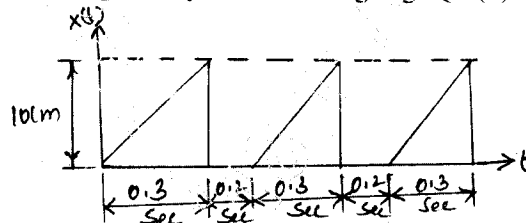

Fig Q1(b)
b. Represent the periodic motions given by the following Fig. Q1 (b) by harmonic series.